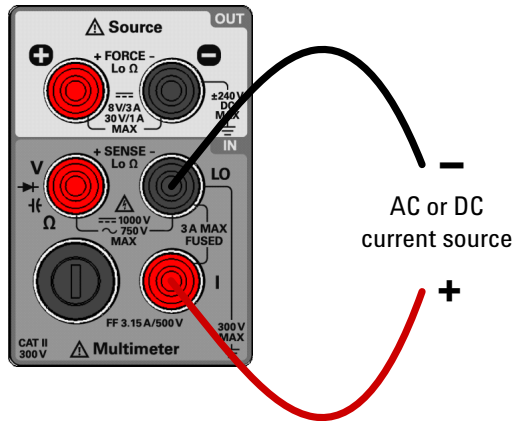

Figure 2-2 Terminal connections for current measurements
- 2 Connect the red and black test leads to input terminals **I** (red) and **LO** (black) respectively as shown in **Figure 2-2**.
- 2 Connect the red and black test leads to input terminals **I** (red) and **LO** (black) respectively as shown in Figure 2-2.